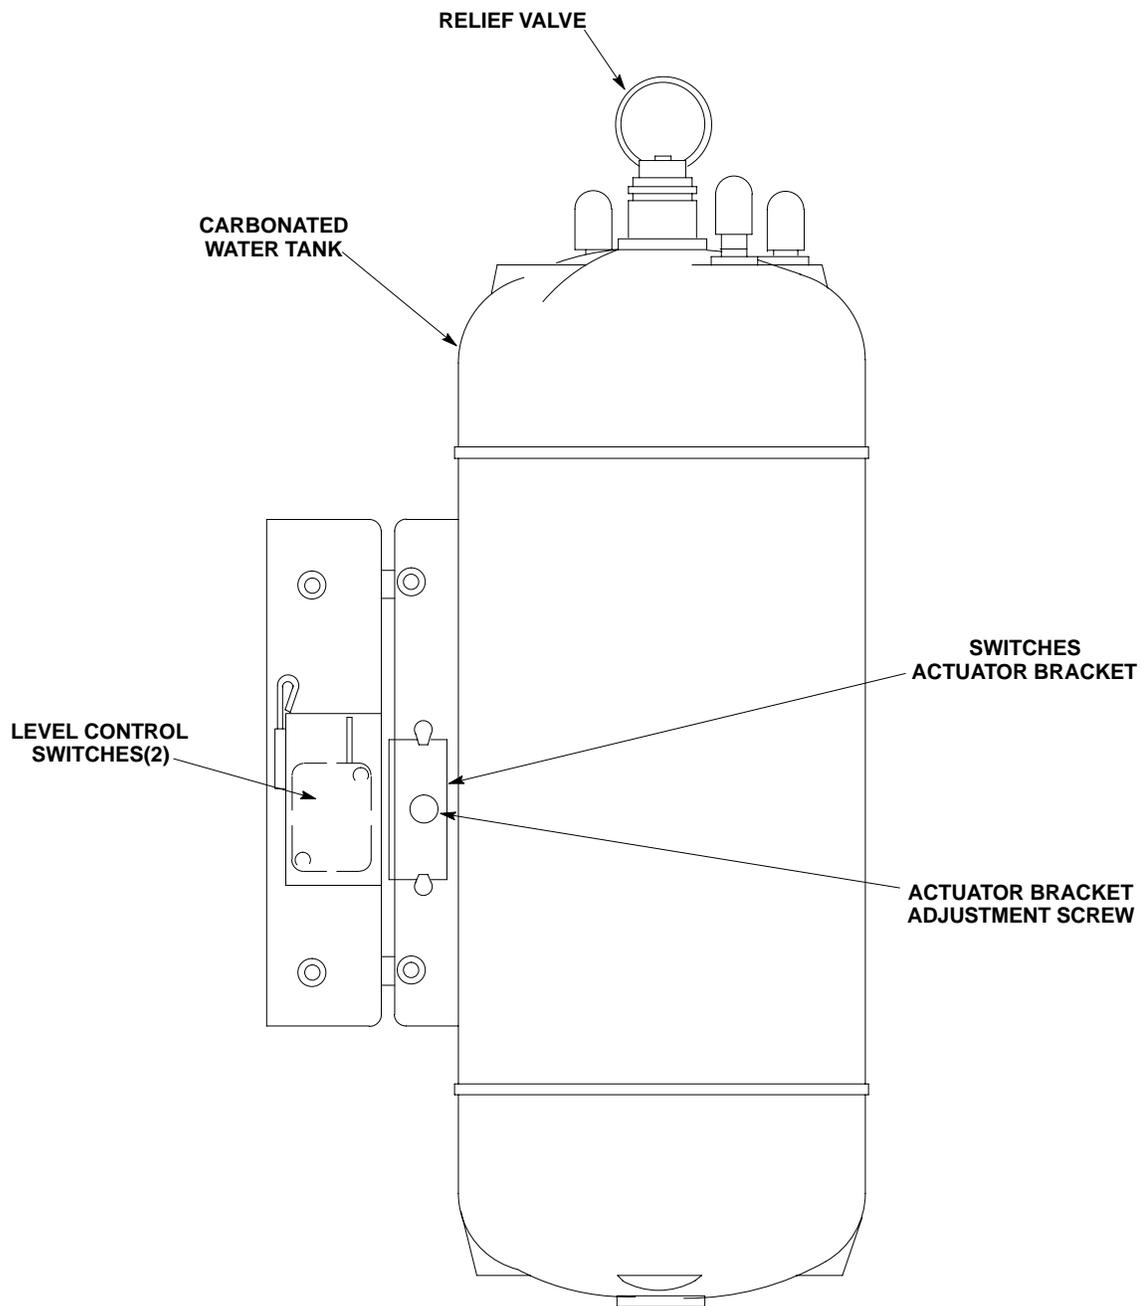

FIGURE 14. CARBONATOR LIQUID LEVEL CONTROL SWITCH ADJUSTMENT
4. If total carbonated water dispensed is below 40-ounces, loosen screw securing level control switches actuator bracket (see Figure 14) and move actuator bracket up slightly. If more than 58-ounces, maximum of carbonated water was dispensed, move actuator bracket down, then tighten screw. **MAKE ADJUSTMENTS IN SMALL INCREMENTS.**